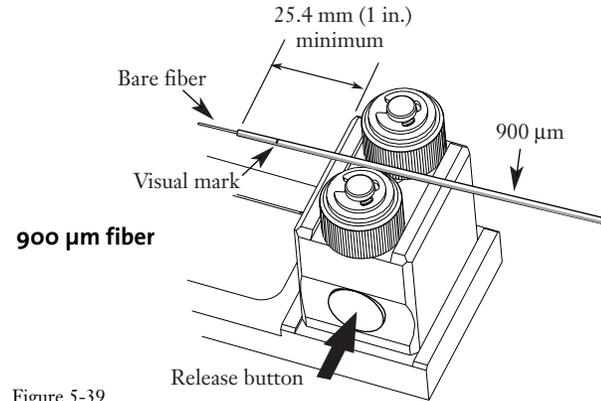

Figure 5-39
**5.8-1** Press in the release button on the UniCam tool's fiber index, and place the fiber between the rollers. Make sure the fiber is fully seated between the rollers (Figures 5-39 and 5-40) before removing your finger from the button.